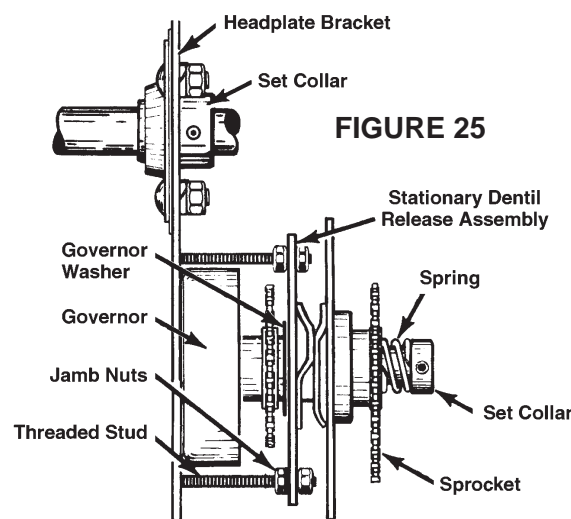

FIGURE 25
- On hand chain, hand crank, or electric operation doors the drive is disconnected by a dentil release assembly shown in Figure 25. The face of the stationary release assemble **MUST NOT** press against the governor washer. If adjustment is required move drop weight arm to down position. Use threaded stud and hex nuts to set gap of 1/32" to 1/16" between face of stationary dentil release assembly and washer on governor drive hub assembly. Tighten jamb nuts after gap is set.